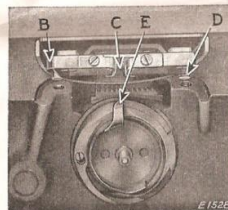
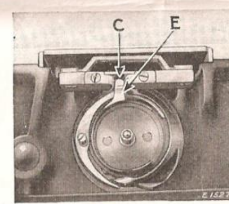

FIG. 4
FIG. 5
chine. See that the bobbin case base position finger (E, Fig. 4) is at top and in line with needle. Attach special throat plate to machine*, inserting stud (B, Fig. 4) in one screw hole and being sure that bobbin case base position finger (E) enters notch (C) in bobbin case base position plate, as shown in Fig. 5, then fasten throat plate in position, using one of the regular throat plate screws (D, Fig. 4) in the other screw hole.